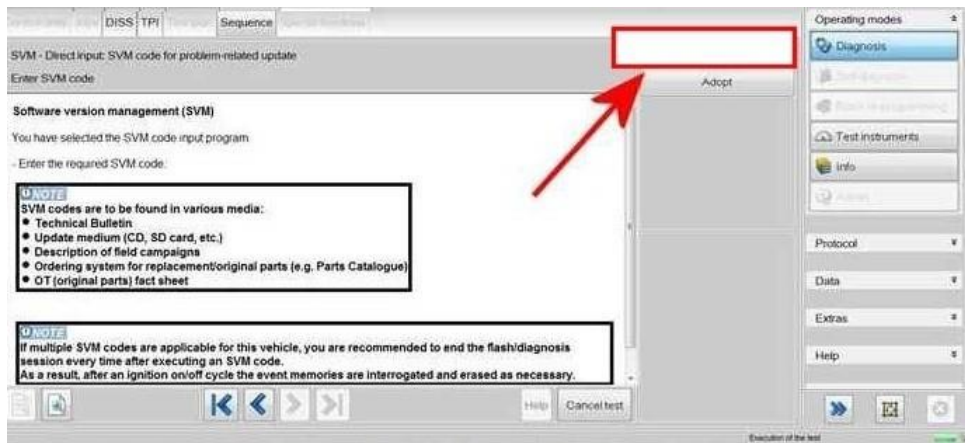

Figure 2
2. On the next screen enter the SVM code 4V00016SW0009 and select Adopt (Figure 2)